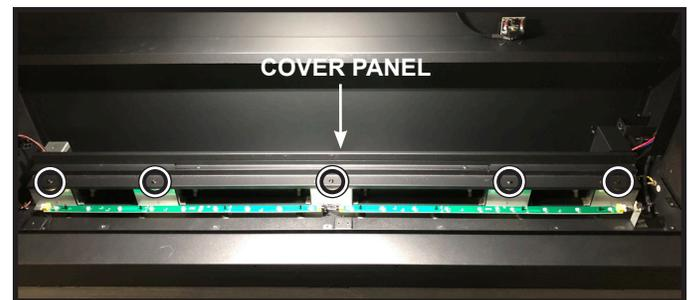

Figure 20
5. Remove the rear LED cover panel by removing the screws. See Figure 20.
9. Connect all lighting LED power source connectors to the LED circuit boards. See Figure 20.
11. Re-install the rear LED cover panel. See Figure 20.